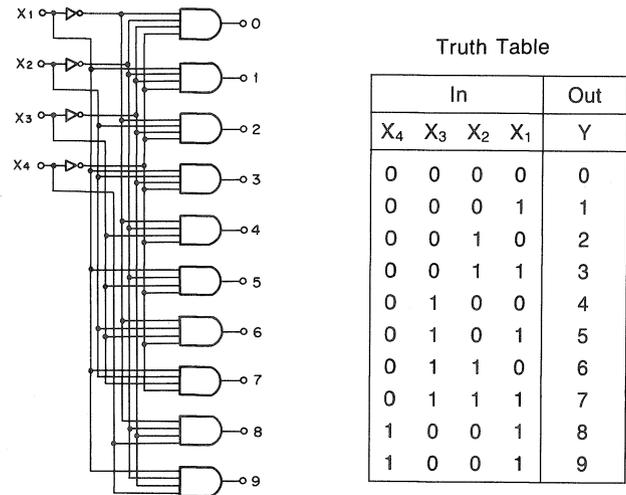

Fig. 18 Binary Decimal Decoder
If 10000000 (B) is applied from the Instruction Register to Decoder, 128th output is selected. The signal for performing the addition is applied to the devices concerned in CPU, and the instruction is executed. Fig. 18 shows a binary-decimal decoder.